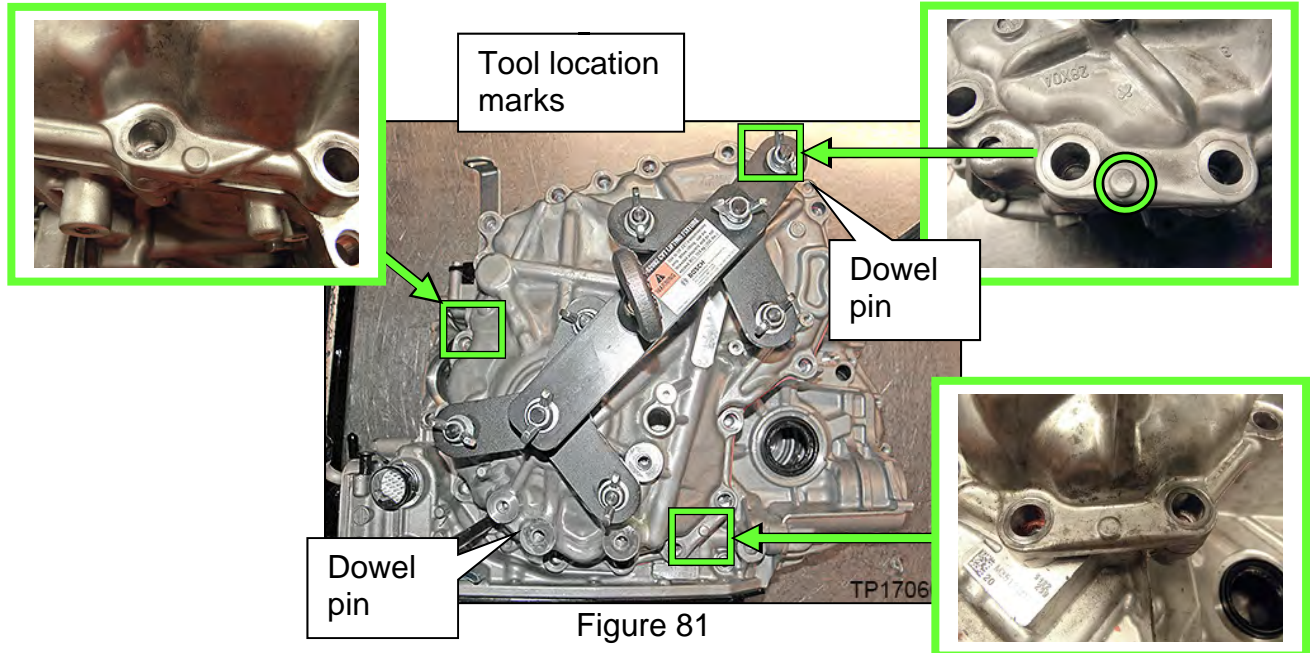

Figure 81
57. Loosen the side cover with a slide hammer at the 3 points shown in Figure 81.